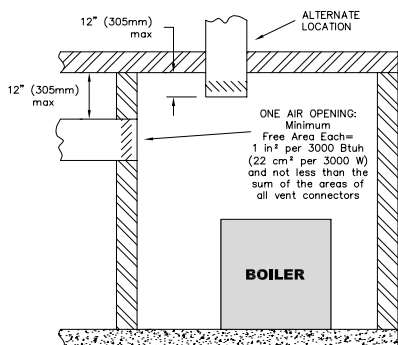

Figure 1.7: Air Openings – All Air from Outdoors through One Opening
- b. **One Permanent Opening Method:** Provide one permanent opening beginning within 12 inches (305 mm) of the top of the space. The opening shall communicate directly with the outdoors, communicate through a vertical or horizontal duct, or communicate with a space that freely communicates with the outdoors. The opening shall have a minimum free area of 1 in² per 3000 Btu/hr of total rated input for all appliances in the space and not less than the sum of the cross-sectional areas of all vent connectors in the space. The gas-fired equipment shall have clearances of at least 1 inch (25 mm) from the sides and back and 6 inches (150 mm) from the front of the appliance. See Figure 1.7 for this arrangement.